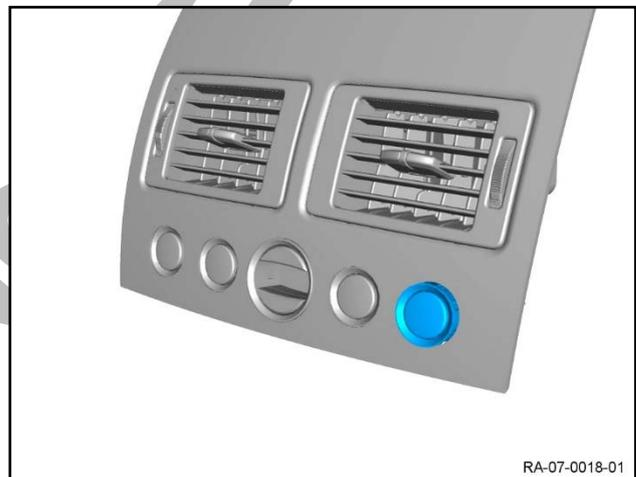

Figure 10
11. Push the “Drive” to remove it from the veneer bezel (refer to Figure 10).